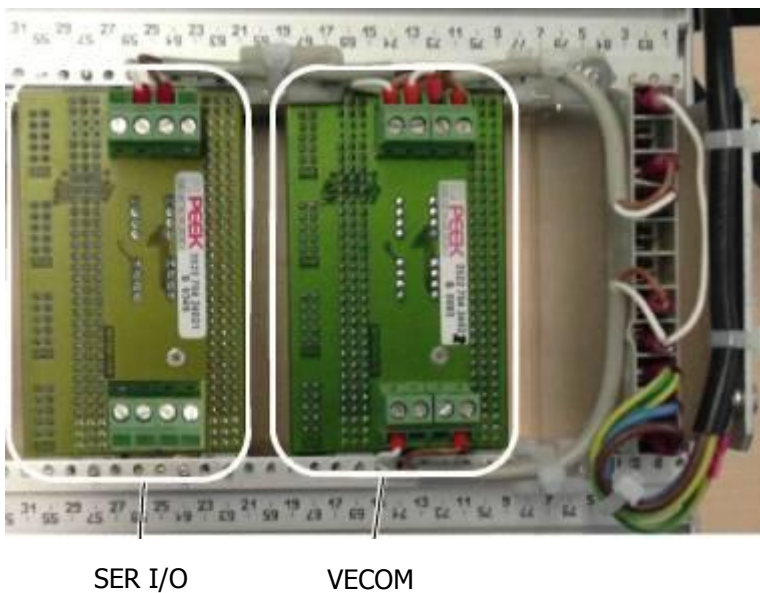

Figure 30 Layout backplanes maximum configuration (Rear view)
1. Install the backplane with the bolts at the correct position according the configuration plan (see Figure 30).
1. Install the backplane with the bolts at the correct position according the configuration plan (see Figure 30);